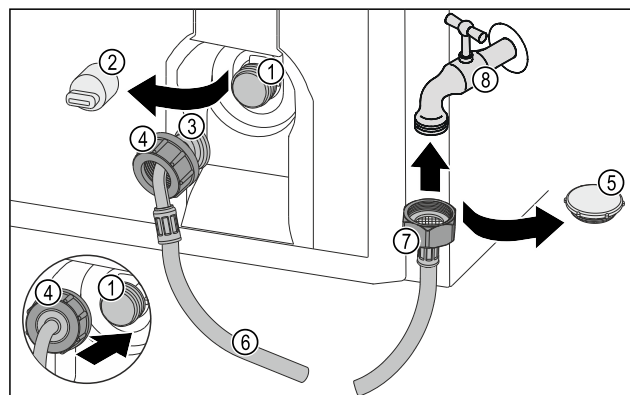

Fig. 58
- Remove the closure cap Fig. 58 (5).
- Place the straight end of the hose Fig. 58 (7) on the tap Fig. 58 (8).
- Tighten the nut at the straight end of the hose Fig. 58 (7) in a clockwise direction.